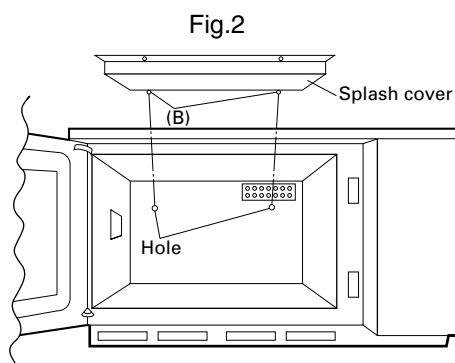

Fig.2
**How to replace the splash cover :** Insert 2 projections (B) of the cover into the holes of the oven cavity backplate as shown in Fig.2. Then slide 2 tubs (A) in the opposite direction of the arrows as shown in Fig.1.